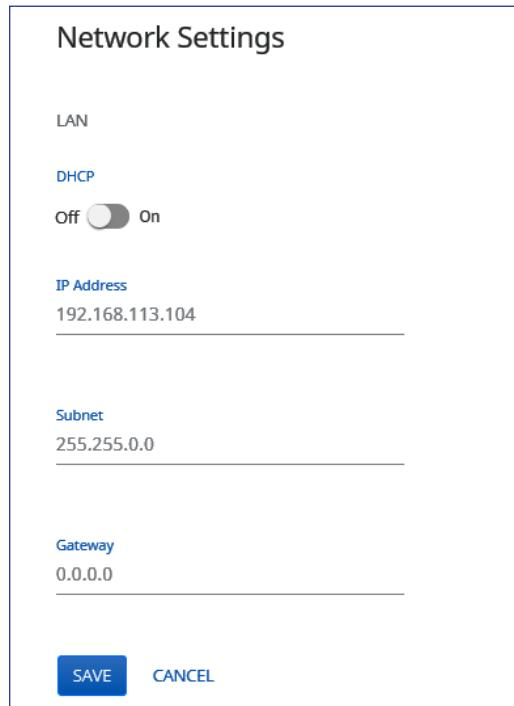

Figure 54. Network Settings Dialog Box
The **Network Settings** panel (see **figure 51** on page 66) shows the current network settings for the PVS 407D. To change the TCP/IP settings, click **EDIT** to access the **Network Settings** dialog box (see figure 54).
- **Stream status:** Shown in **figure 54** on the previous page, this displays the audio stream status of 0 = idle and 1 = currently streaming